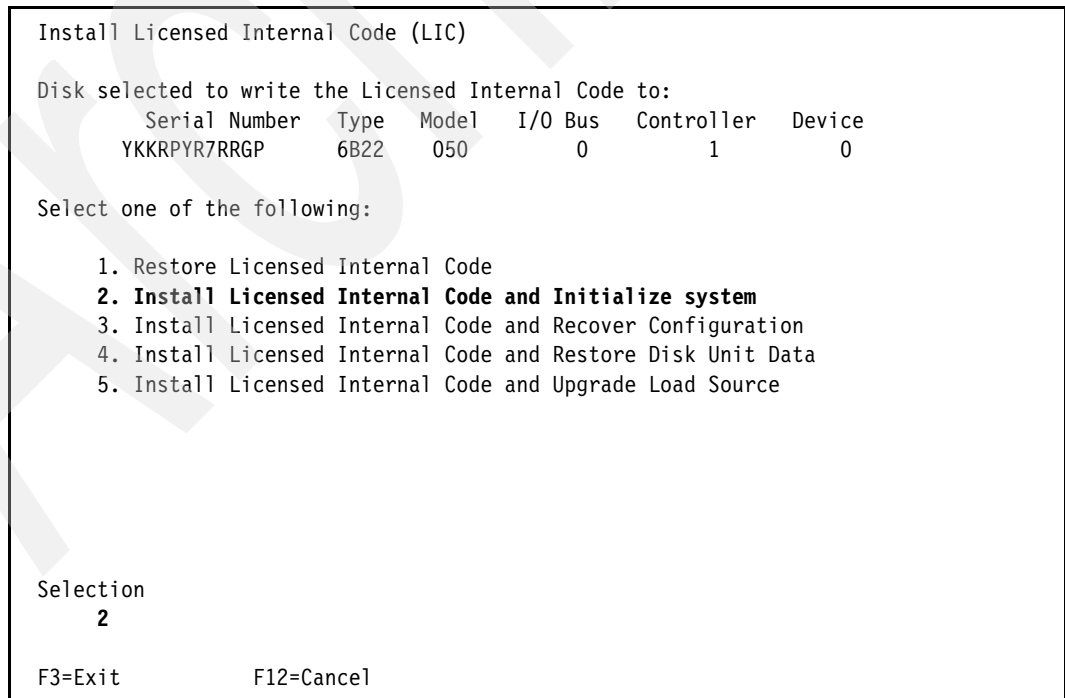

Figure 6-70 IBM i Install Licensed Internal Code (LIC) panel
9. We select option **2. Install Licensed Internal Code and Initialize system** to proceed with installing the SLIC on our new IBM i client partition of VIOS, as shown in Figure 6-70.